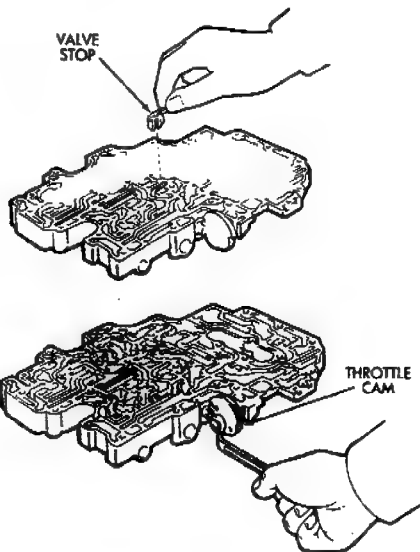

Fig. 3 Removing/Installing Valve Stop And Throttle Cam
- (3) Remove valve stop and throttle cam (Fig. 3).